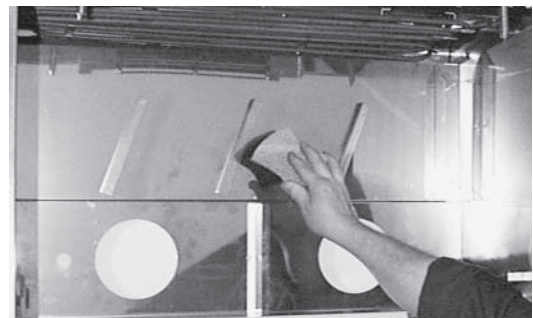

Fig. 52
7. Clean element cover while it hangs down (Fig. 52).